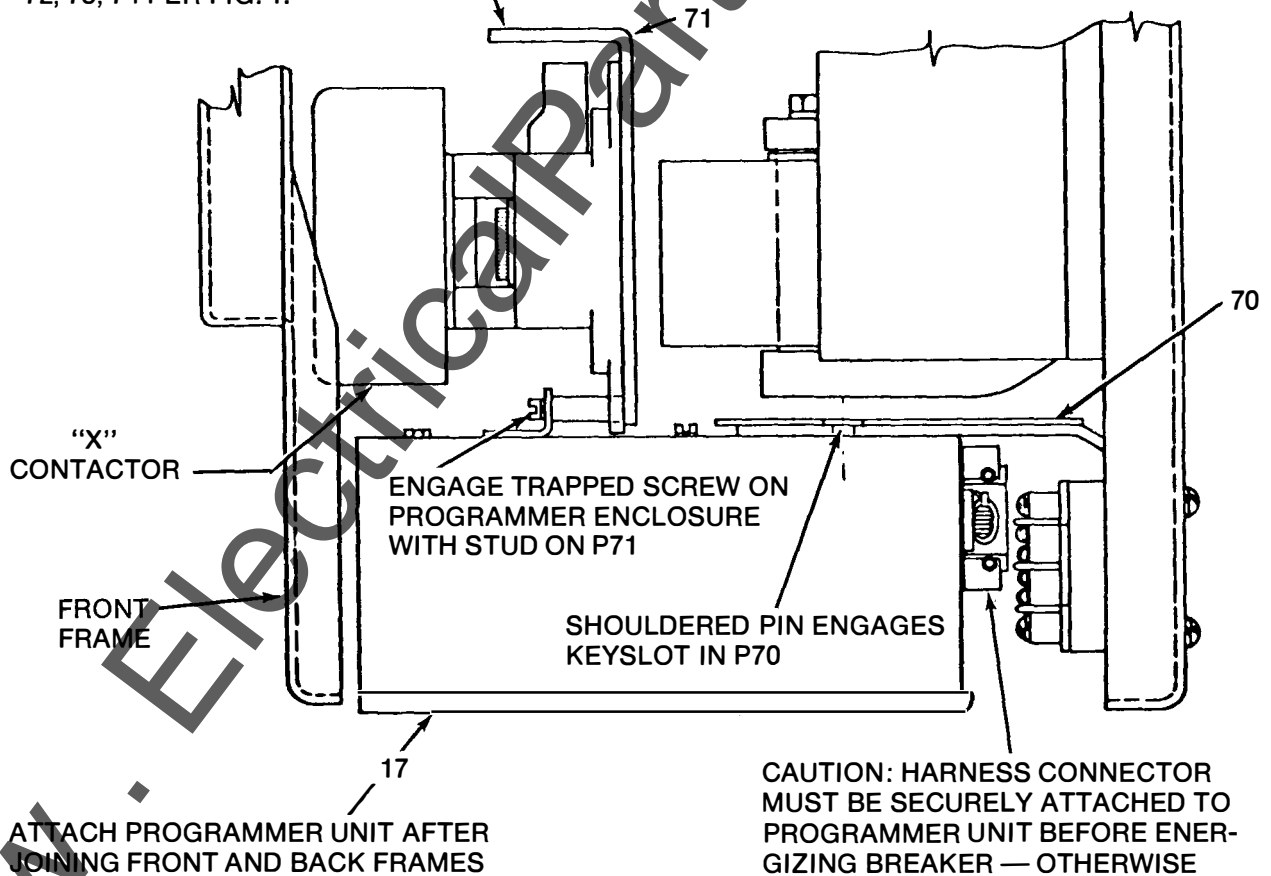

Fig. 21 — Right side view of breaker showing mounting of programmer unit.
9. Install programmer front mounting bracket 71 to the underside of the front frame per Fig. 21. On AK-2/2A electrically operated models, this bracket replaces the existing bracket which mounts the "X" contactor. This step is not required on AK-3/3A models; they have the proper bracket already in place.
14. Mount programmer unit 17 to breaker and plug harness connector into programmer. See Fig. 21.